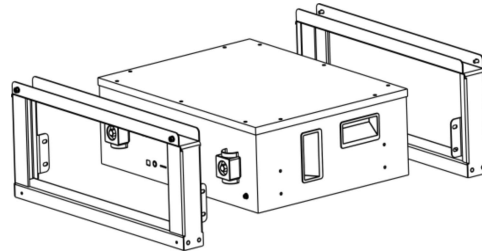

Figure3-2
1. BX48100 brackets The BX48100 bracket is shown before installation as shown in figure3-2.